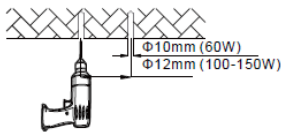

Figure 1
1. Using the pre-installed bracket on the fixture as a guide, mark and drill two holes into the mounting surface (Figure 1).